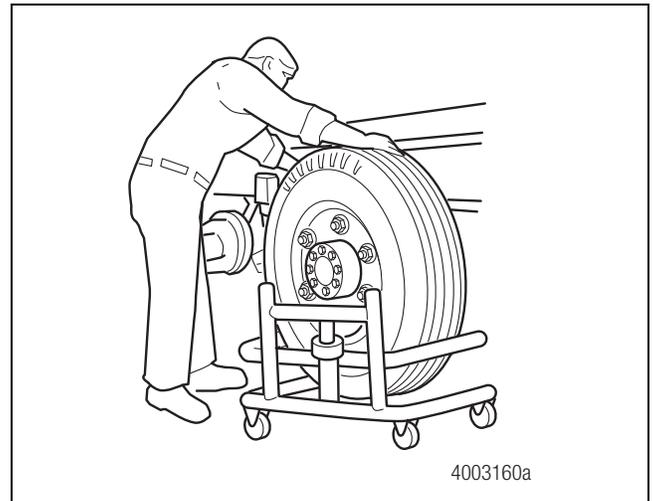

Figure 3.2
5. Remove the tire and wheel assembly, using procedures specified by the wheel manufacturer. Figure 3.2.